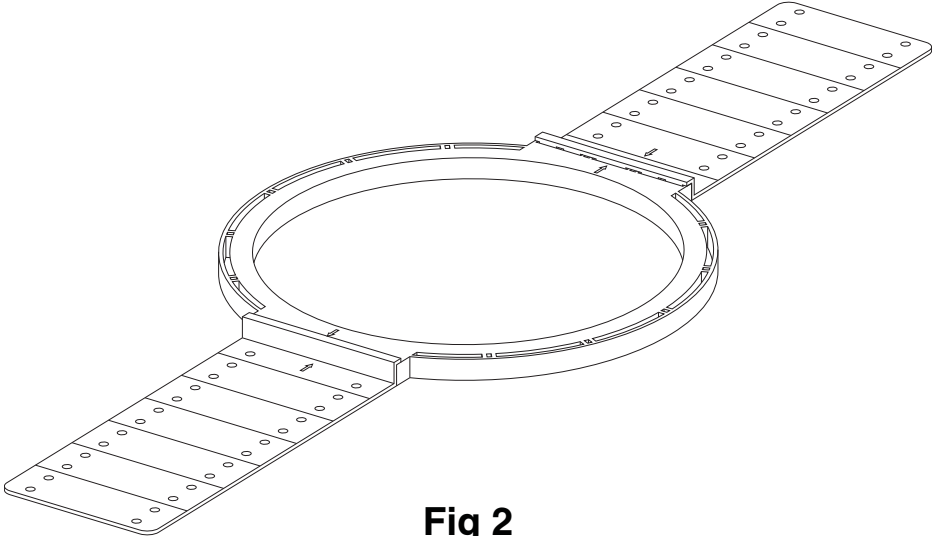

Fig 2
4. Position the speaker bracket in the centre of the joist/stud opening and secure it in place using 4 drywall screws (not supplied). The flat side of the speaker bracket should be facing outward as shown in Fig 2.